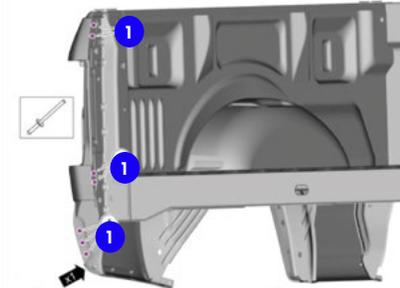

Figure 1
3. On both sides, use the 6.5mm drill bit to drill guide holes, and, using the rivet gun, install blind rivets (part #W707638-S900C). [Figures 1 and 2]